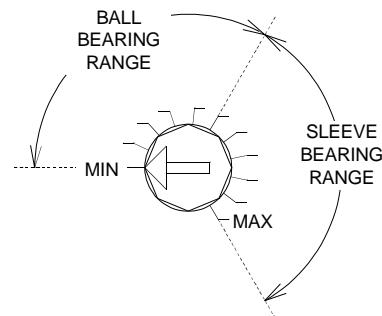

FIGURE 5 - HARD START CALIBRATION
11. Adjust the "HARD START" knob to the maximum. This will allow full voltage to be applied to the motor for a longer period during start-up. See Figure 5.